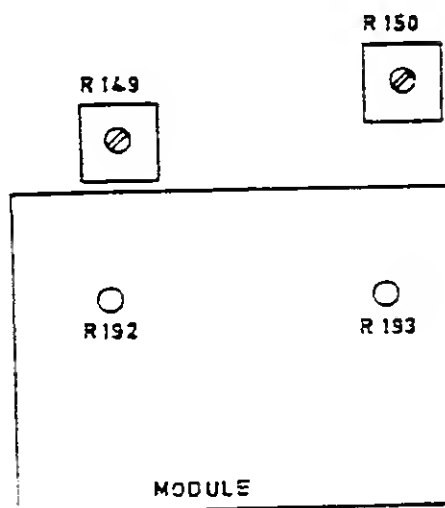

Figure 6.21 - Location of R149 and R192
6.7.2.2.1 Set R149 fully counterclockwise and R192 to its mid-position. R192 is located inside the screened module as shown in Figure 6.21.